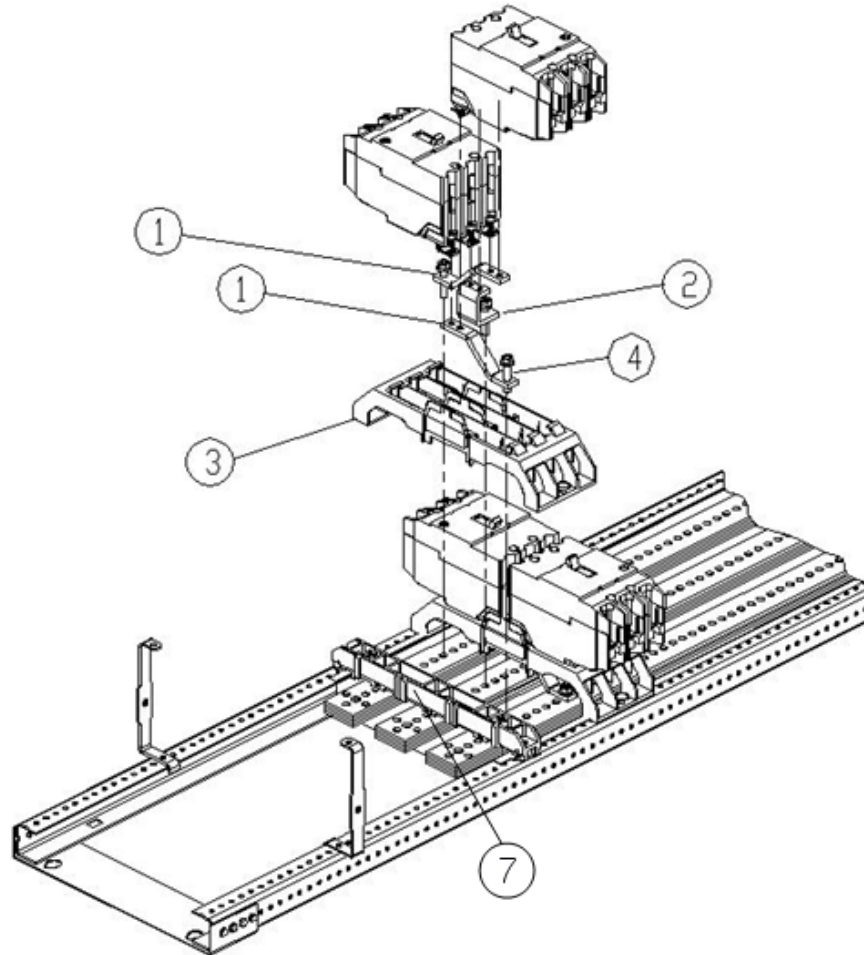

Figure 1. Installation of a TEY circuit breaker kit on left side of interior, catalog number ASPP6EY6D, into an A-Series® II Panelboards.
Use the following procedure to install a TEY circuit breaker kit. Call-out numbers in the illustrations and numbers in brackets in the text refer to the Item Numbers in Table 1. Installation of a three-pole kit is illustrated in Figure 1.
5. Place the breaker as shown in fig.1 such that breaker strap hole aligns with breaker mounting strap tapped hole and other end of breaker snaps with 3X base lancing slot provided and then tighten terminal screws completely with 27-36 in-lb.